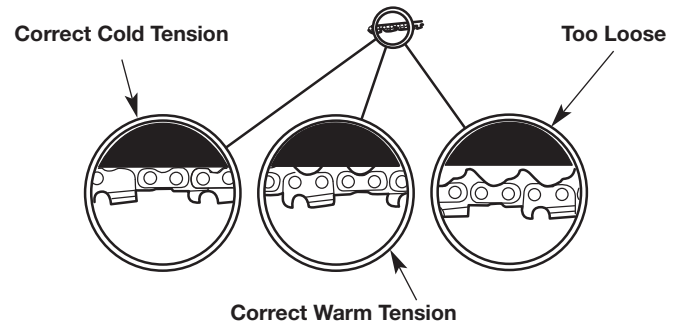

Fig. 25
The desired chain tension depends upon the temperature of the saw chain (Fig. 25).
- Cold Chain Tensioning - The saw chain should fit snugly against the underside of the guide bar. There should be no sag (Fig. 25).
- Warm Chain Tensioning - The saw chain will expand as it heats up during operation. The drive links should hang approximately 1/16 inch (1.3 mm) out of the guide bar groove (Fig. 25).